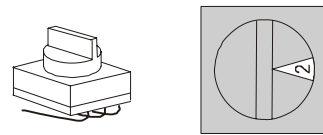
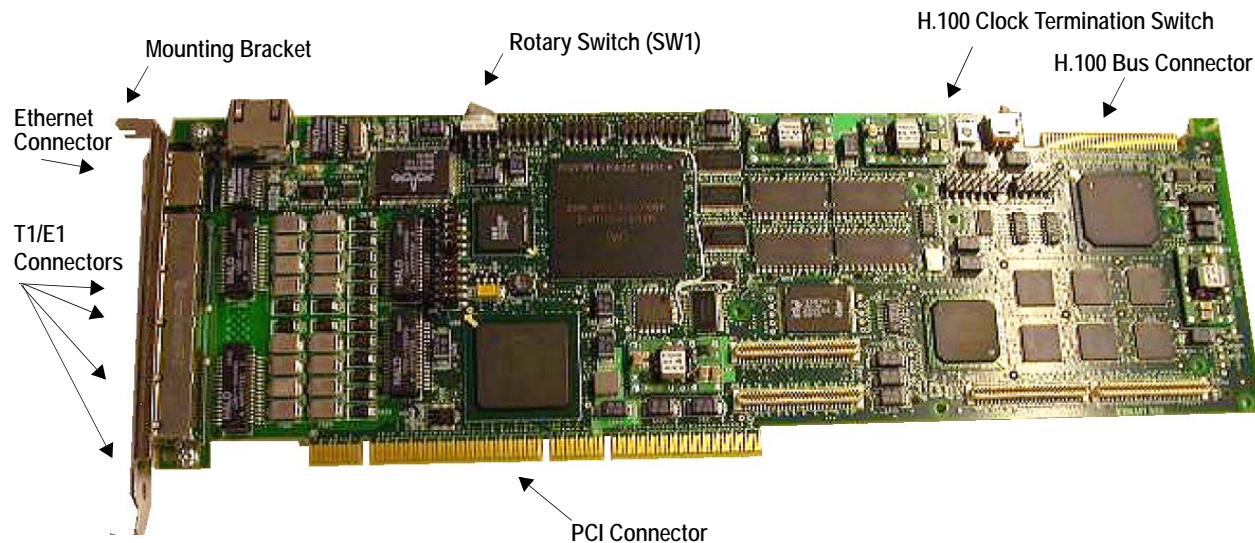
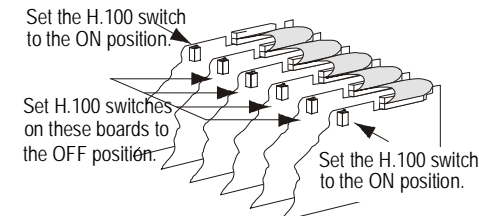

Figure 1. Rotary Switch - SW1
Figure 2. Dialogic® Brooktrout® Digital Board
Figure 3. Setting Clock Termination in a Series of Boards Connected by an H.100 Bus
You must set each board to a unique module number to identify the resources associated with a specific board in a multi-board system (to a maximum of 4 boards). SW1 (Figure 1) is a rotary switch (see location in Figure 2). Use it to set the module number for each board. The available settings are 2 - F (0 and 1 are reserved).
The H.100 Termination Switch (see Figure 2 for location) controls termination for the H.100 clock signals. If you have the board and other boards that need to be connected using an H.100 cable (not supplied), you must terminate the H.100 clock signal. Only the boards at each end of the cable *must* be terminated. All other boards *must not* be terminated (see Figure 3).
5. Screw the board's mounting bracket securely to the computer's frame. See Figure 2.